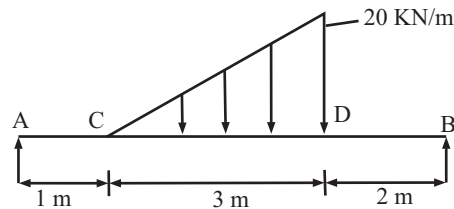

Fig 7
Q.7. Draw SF diagram for simply supported beam shown in fig 7.